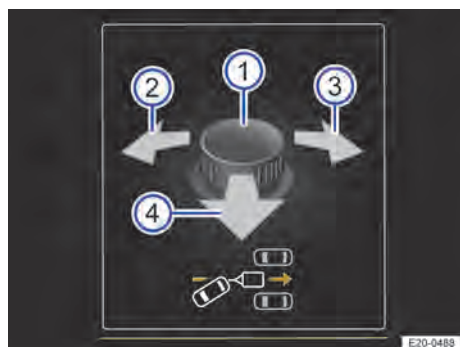
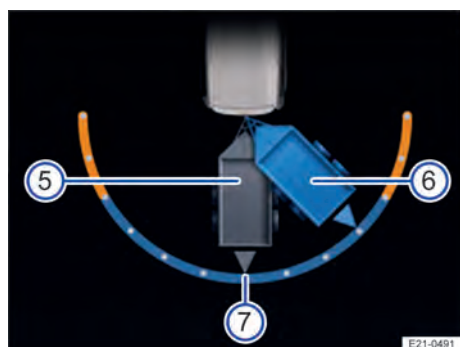

Fig. 137 On the instrument cluster display: adjusting the angle of the trailer using the rotary knob for the exterior mirrors.
Fig. 138 On the instrument cluster display: adjusting the direction of travel of the trailer.
4. Tilt the rotary knob until the desired direction is reached → Fig. 137 ①. A diagram showing the current position of the trailer appears on the instrument cluster display for orientation purposes → Fig. 138 ⑤.
6. Correct the angle with the rotary knob if necessary → Fig. 137 ①.
7. Turn the rotary knob to the left ② or right ③ to select the direction of travel.
8. Pull the rotary knob to the rear ④.